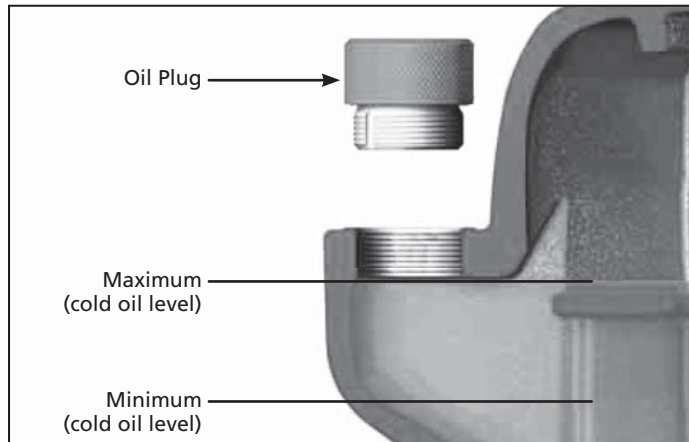

Figure 7 - Oil Level
Before operating compressor, check oil level (see Figure 7).
OIL LEVEL CHECK (SEE FIGURE 7)
5. If necessary, top off oil of the same oil type and the same brand up to the maximum level (see Figure 7 and Lubrication section).
1. Check oil level (See Figure 7).